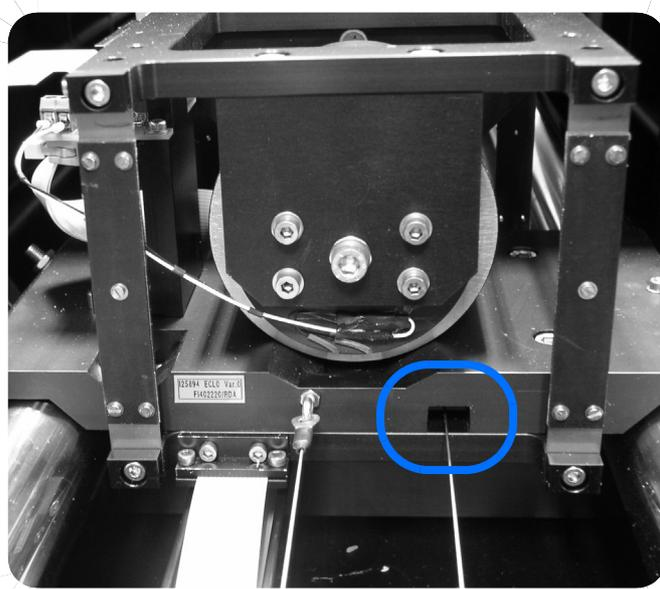

Figure 47: IFS 125HR - Scanner with drive cable
- Make sure that the drive cable does not touch the feed-through wall, see marking in figure 47, when the scanner is located in the middle of the scan path.